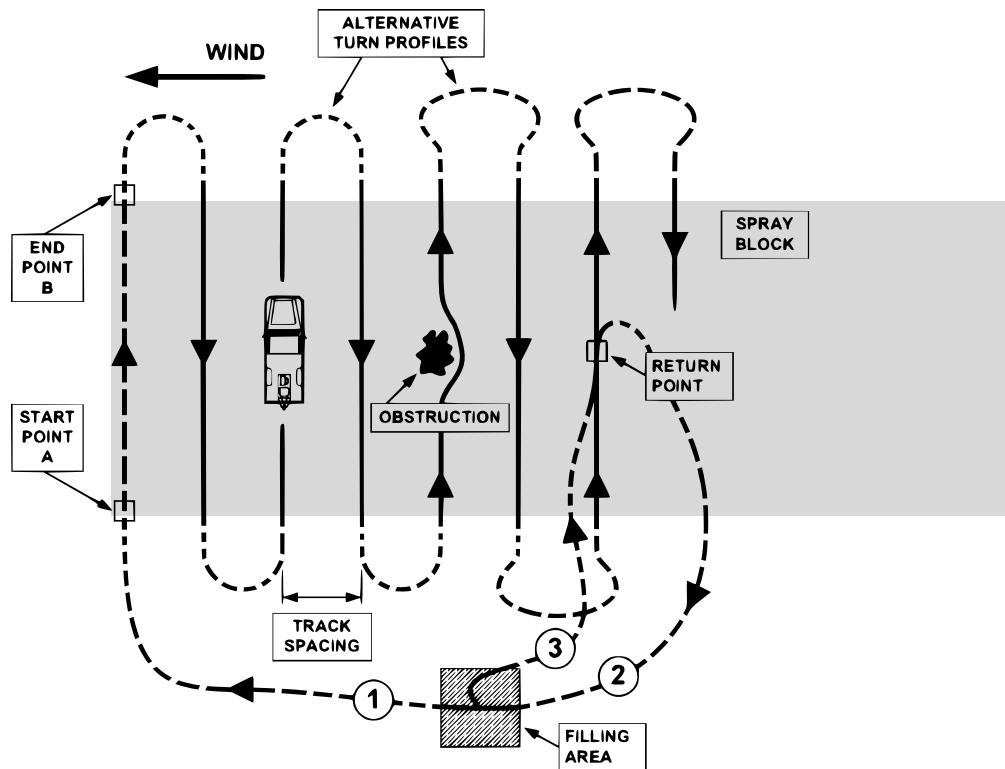

Fig. 10 – Layout of typical spray block
The Spraytrac GPS track guidance system is intended to enable the driver of a spray vehicle to follow parallel tracks in a spray block and to record spray operations. The layout of a typical spray block is shown in **fig. 10**. The key features are:
The A-B line is defined by a line between a point at the beginning of the downwind edge of the spray block (point A) and a point at the end of this edge (point B) – see **fig. 10**. The procedure to set this A-B line in the Spraytrac software is as follows:
2. Steer around the obstacle and back onto the original track (as shown on the display as a dashed line) so as to follow a smooth curve as shown in **fig. 10**. Do not make any sudden changes in direction and avoid passing over the halfway point between tracks. Passing over the halfway point would be interpreted as a turn to the end of the spray block and the track number would increment to the next line.
It may sometimes be necessary to leave the current track during a spray job to re-fill the pesticide tank, refuel the vehicle etc. In these cases, it is necessary to stop spraying and proceed to the filling area as shown in **fig. 10**. Once this has been done, the operator can return to the end of the green treated area on the current track number and resume spraying and proceed as before.